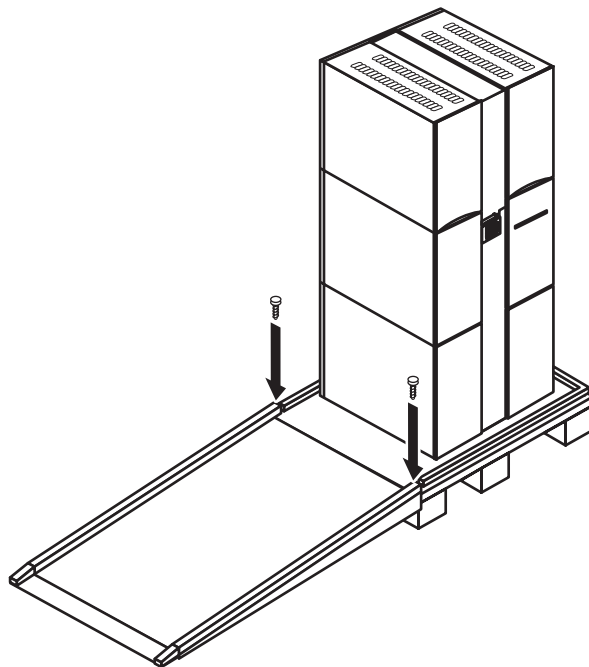

Figure 4: Securing the pallet ramp
7. Secure the ramp to the pallet using the pallet bolts (see Figure 4).